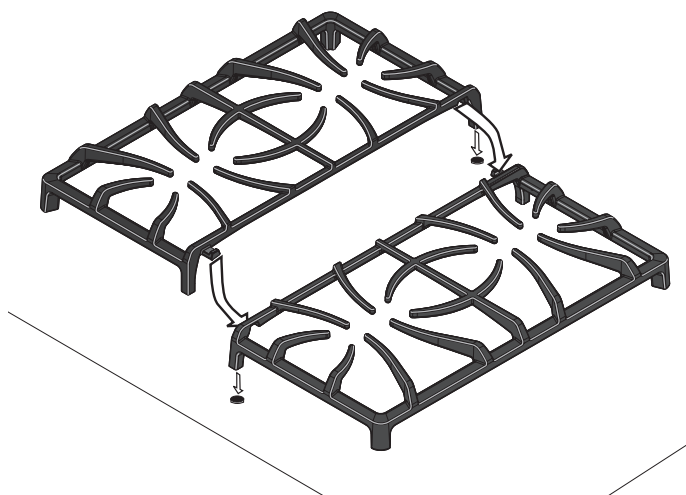

Figure 3 - 30" Model
- 3 Unpack Burner Grates and position on the cooktop (see Figure 3 or 4).